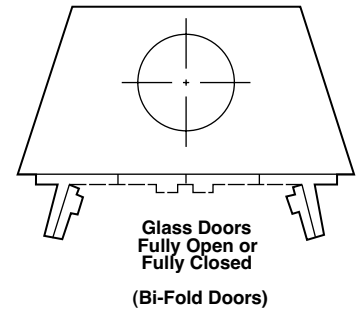

Figure 3
**WARNING: IF YOUR FIREPLACE IS EQUIPPED WITH GLASS DOORS, IT SHOULD BE OPERATED WITH THE DOORS FULLY OPEN OR FULLY CLOSED. IF THE DOORS ARE LEFT PARTIALLY OPEN, GAS AND FLAMES MAY BE DRAWN OUT OF THE OPENING, CREATING RISKS OF BOTH FIRE AND SMOKE. REFER TO FIGURES 3 AND 4 FOR PROPER OPERATING CONDITIONS.**